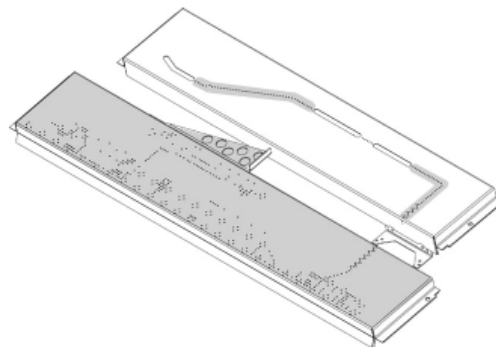

Figure 34 - Rockwool placement
2. Distribute one layer of rock wool to cover the burner. See *Figure 34 and next page*.